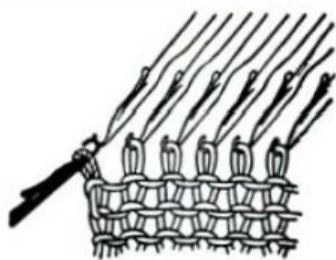

Fig. 70
1. Start on the side where your yarn ends. (See Fig. 70)